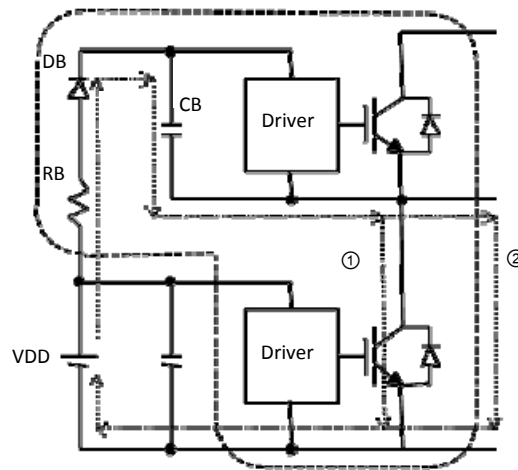

Figure 20. Boot Strap Circuit
The VBx pins are internally connected to the positive supply of the high-side drivers. The supply needs to be floating and electrically isolated. The boot-strap circuit shown in Figure 20 forms this power supply individually for every phase. Due to integrated boot resistor and diode (RB & DB) only an external boot capacitor (CB) is required. There are two current path to charge CB – depicted as ① and ②.
① when the low side power IGBT is ON
② when motor current is flows in CB